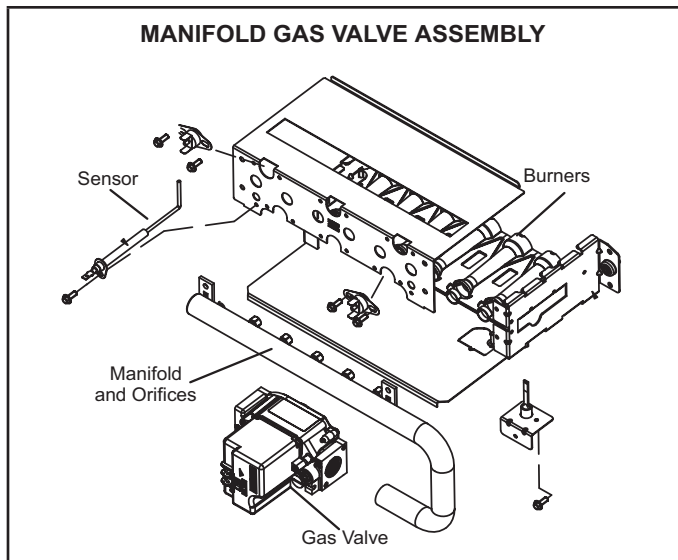

FIGURE 5
- 5 - Replace the burner orifices with the provided gas orifices. Torque to approximately 35 in-lbs. Do not use sealant on orifices. Figure 5 shows manifold/gas valve assembly.